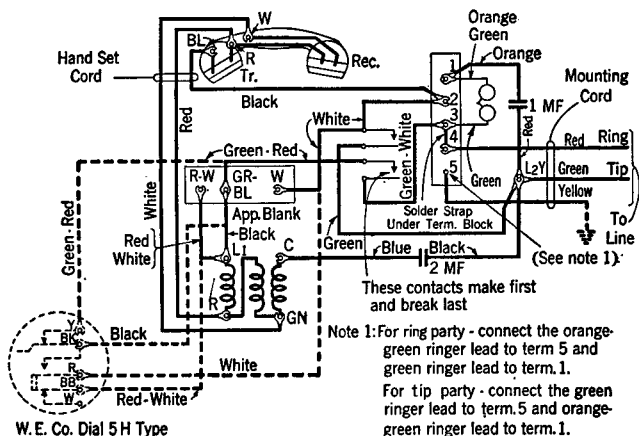

Fig. 1
3.01 The connections for North Electric telephone sets are shown in Fig. 1 herein which replaces Fig. 1 of the section. The new connections should be provided for all new installations, reinstallations and additions of dials to the sets. Likewise whenever customer complaints of dial or switch clicks
3.02 The diagram in Fig. 1 shows the line and ringer connections are for bridged ringing lines. Line and ringer connections for bridged and grounded ringing lines of the classes of service for which the set is used are given in Table 1.
2.01 These sets are in general similar to the 302 type telephone sets shown in Section C32.502, Figs. 1 and 2 and are used at common battery anti-sidetone stations on non-polarized ringing lines of the following classes of service:
2.02 For individual lines and regular P.B.X. stations a two conductor mounting cord between the connecting block and the set is required. As these sets are furnished with a three conductor cord the additional conductor at the connecting block end should be connected to terminal Y of the 42A connecting block. For grounded ringing lines the third conductor of the mounting cord is used, to bring a ground into the set. (See Fig. 1.)
3.01 The connections for these telephone sets are shown in Fig. 1.
3.02 The diagram in Fig. 1 shows the line and ringer connections for bridged ringing lines. Line and ringer connections for bridged and grounded ringing lines of the classes of service for which the set is used are given in Table 1.
5.04 The plunger and switch contact spring assembly is somewhat similar to Fig. 1, Section C32.575 except the contacts are of the point and disc type instead of the bar type.